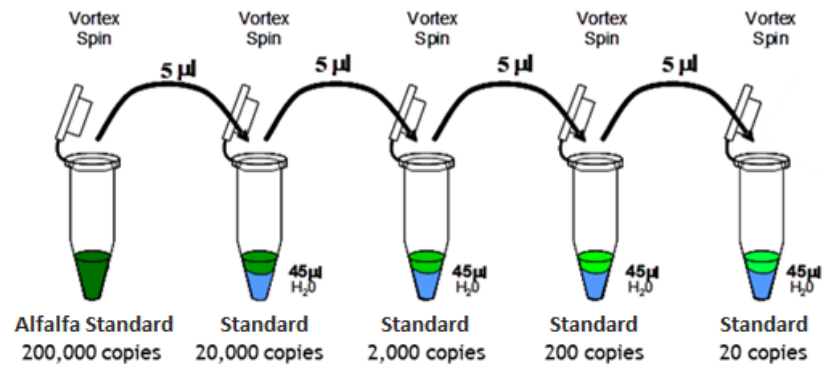

Figure 1. Four serial standard dilutions are made from RR Soy Standard to perform two standard curves.
05. As represented in Figure 1, four serial dilutions should be prepared starting from the undiluted Alfalfa Standard containing 2×10^5 copies. For this, add 5 μL of the alfalfa standard and 45 μL of nuclease-free water, until the preparation of the lowest concentration containing 20 total copies